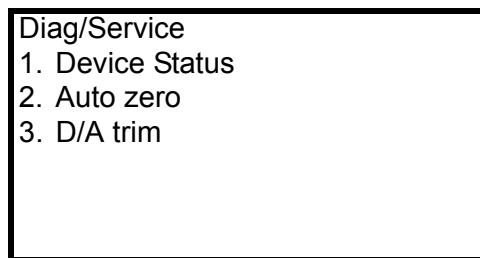

Figure 30 Diag/Service menu
2. Select “2. Diag/Service” from the device set up menu. (Figure 8) The Diag/Service menu will then be displayed as shown in Figure 30.
1. Select "3. D/A trim" from the Diag/Service menu. (Figure 30)